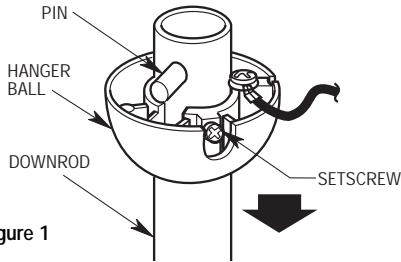

Figure 1
- 1. Remove the hanger ball by loosening the setscrew in the hanger ball until the ball falls freely down the downrod (Figure 1). Remove the clevis pin from the downrod, then remove the hanger ball. Retain the pin and hanger ball for reinstallation in step 5.